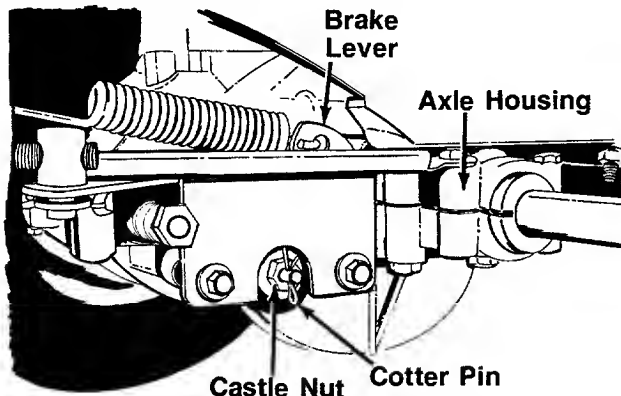

FIGURE 6.
## BRAKE ADJUSTMENT (See Figure 6)
**NOTE:** Figure 6 is shown with the unit tipped up on rear wheels for clarity only.